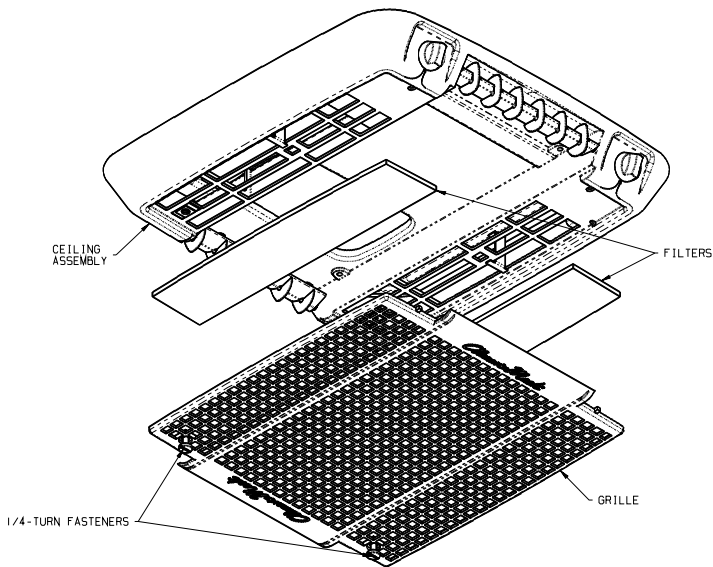

FIGURE 2
1. Disengage the two 1/4 –turn fasteners that secure the ceiling assembly grille to the ceiling assembly (See Figure 2).
3. Take filters out and either clean or exchange them with other filters (See Figure 2).